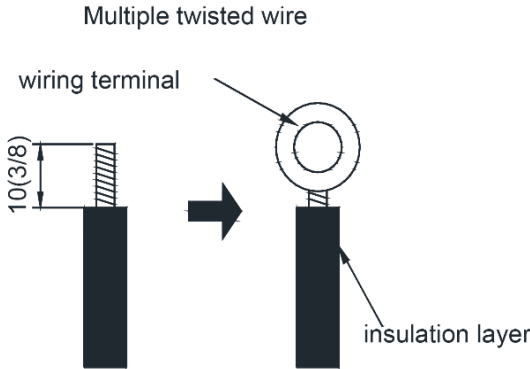

Fig 10.1.2
- (2) The connection of stranded wire (as shown in fig 10.1.2)